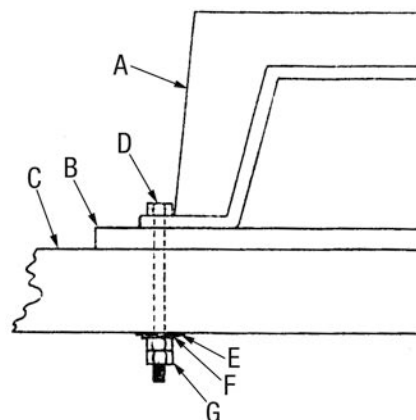

Figure 3
1. When mounting this scroll saw base (A) Fig.3 to a workbench (C), a solid bench is preferable over a plywood bench where noise and vibration will be more noticeable.
4	Hex. bolts - 1/4 - 20 (D) Fig.3
4	Washers 9/32" (E) Fig.3
4	Lock washers 9/32" (F) Fig.3
8	Hex. nuts 1/4 - 20 (G) Fig.3
3. A soft foam pad (B) Fig.3 to place between your scroll saw and your workbench is not supplied but we recommend the use of such a pad to reduce noise and vibration. The size of the pad should be 24"x12"x1/2". See mounting illustration in Fig.3.